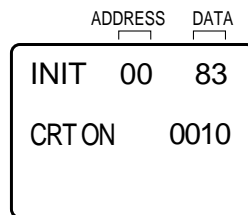

Fig. 1
2. Press both VOL. DOWN button on the set and Channel button (6) on the remote control for more than 1 second. ADDRESS and DATA should appear as FIG 1.